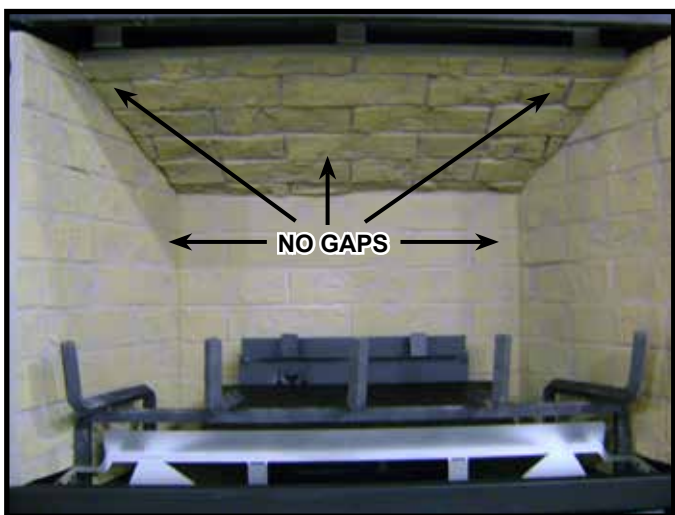

Figure 7
**Log #2 (2166-722):** Mate the groove located on the bottom of Log #2 with the left protrusion on top of Log #1. After groove and protrusion have been fitted together, mate the groove located on the bottom of Log #2 with the horizontal grate bar and slide Log #2 toward the left until it rests against the far left grate tine. See Figure 7.
**Log #3 (2170-723):** Mate the groove located on the bottom of Log #3 with the right log placement protrusion on top of Log #1. After groove and protrusion have been fitted together, mate the groove located on the bottom of Log #3 with the horizontal grate bar and far right grate tine. Log #3 will sit down on top of both the grate tine and the horizontal grate bar. See Figure 7.